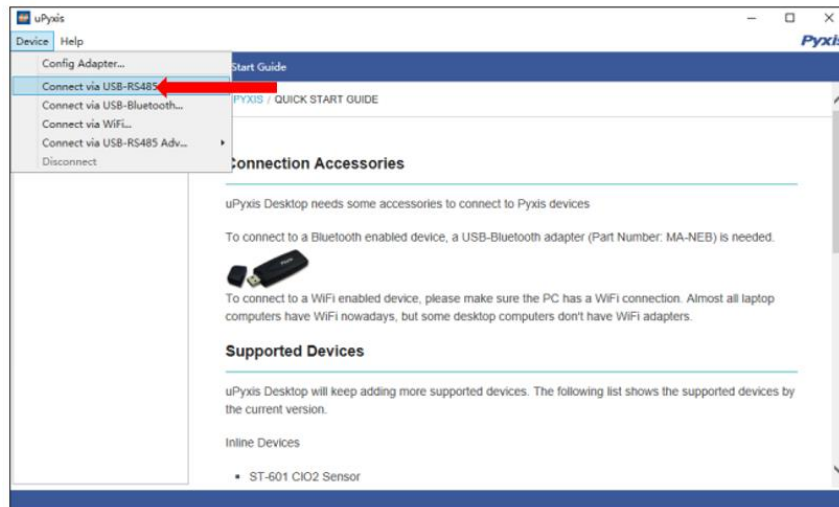

Figure 18. Connect to LT-73X Series via USB-RS485 Option
- 6) Select Connect via USB-RS485 (Figure 18).